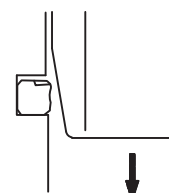

Fig. 4
- (5) If the seal ring is distorted after fitting, correct the distortion with the jig before assembly. (Fig. 4)